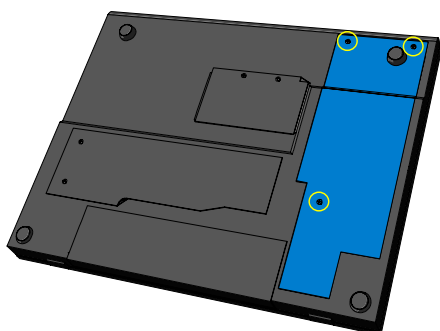

Fig.8
1. Remove the hard drive panel located on the bottom surface of the notebook (three screws hold the panel in place). (See Fig.8)